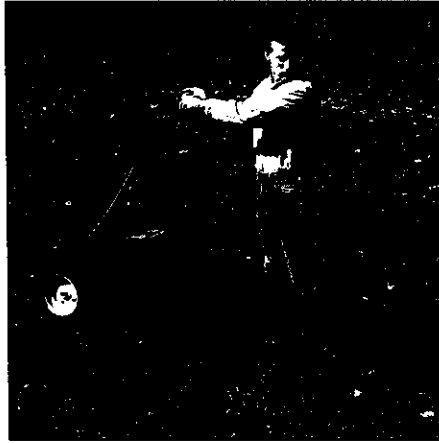

Figure 3-11: Use one hand to guide tiller when moving
- (b) As the tiller moves forward, relax and let the wheels pull the unit along while the tines dig. Walk behind and a little to one side of the tiller. Use a light but secure grip with one hand on the handlebars, but keep your arm loose. See Figure 3-11. Let the tiller move ahead at its own pace and do not push down on the handlebars to try and force the tiller to dig deeper – this takes weight off the wheels, reduces traction, and causes the tines to try and propel the tiller.
- While tilling, relax and let the wheels pull the tiller along while the tines do the digging. Walk on the side that is not yet finished (to avoid making footprints in the freshly tilled soil) and lightly, but securely grip the handlebar with just one hand. See Figure 3-11.